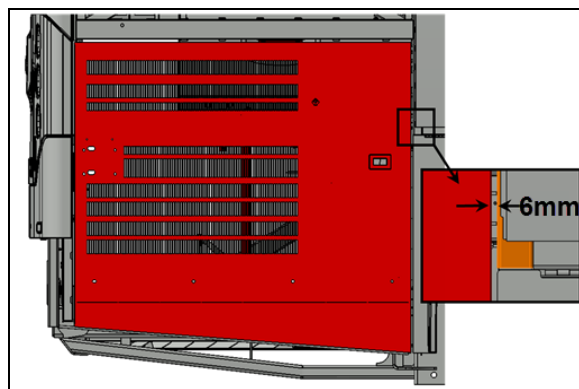

FIGURE 53
5. Check the gap between the door and the adjacent panel at the level of the upper attachment point of the arm on the door. The gap should be $1/4"$ (6 mm) (FIGURE 53).